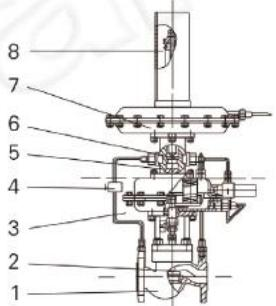

图1: 30W02-01供氮装置
供氮装置(见图1), 将设在罐顶的取压点的介质经导压管引入检测机构(7), 介质在检测元件上产生一个作用力与与预设弹簧(8)预紧力相平衡。当罐内压力降低至低于供氮装置压力设定点时, 平衡被破坏, 使指挥器阀芯(6)打开, 使阀前气体经减压阀(4)、节流阀(5)、进入主阀执行机构(3)上、下膜室, 打开主阀阀芯(2), 向罐内充注氮气; 当罐内压力升至供氮装置压力设定点, 由于预设弹簧力, 关闭指挥器阀芯(6)、由于主阀执行机构中的弹簧作用, 关闭主阀, 停止供氮。
In the nitrogen supply device (see figure 1), the medium at the pressure point at the top of the tank is introduced to the detection mechanism (7) through the pressure pipe. The medium produces an acting force on the detection element, which balances the pre-tightening force of the preset spring (8). When the pressure in the tank drops to be lower than the pressure set point of the nitrogen supply device, the balance is destroyed, so that the pilot plug (6) is opened, and the before-valve gas enters the upper and lower diaphragm chambers of the main valve actuator (3) after passing through the pressure reducing valve (4) and throttle valve (5). The main valve plug (2) is opened and nitrogen is filled into the tank. When the pressure in the tank rises to the pressure set point of the nitrogen supply device, the pilot plug (6) is closed by the preset force. Due to the spring action in the main valve actuator, the main valve is closed and nitrogen supply is stopped.